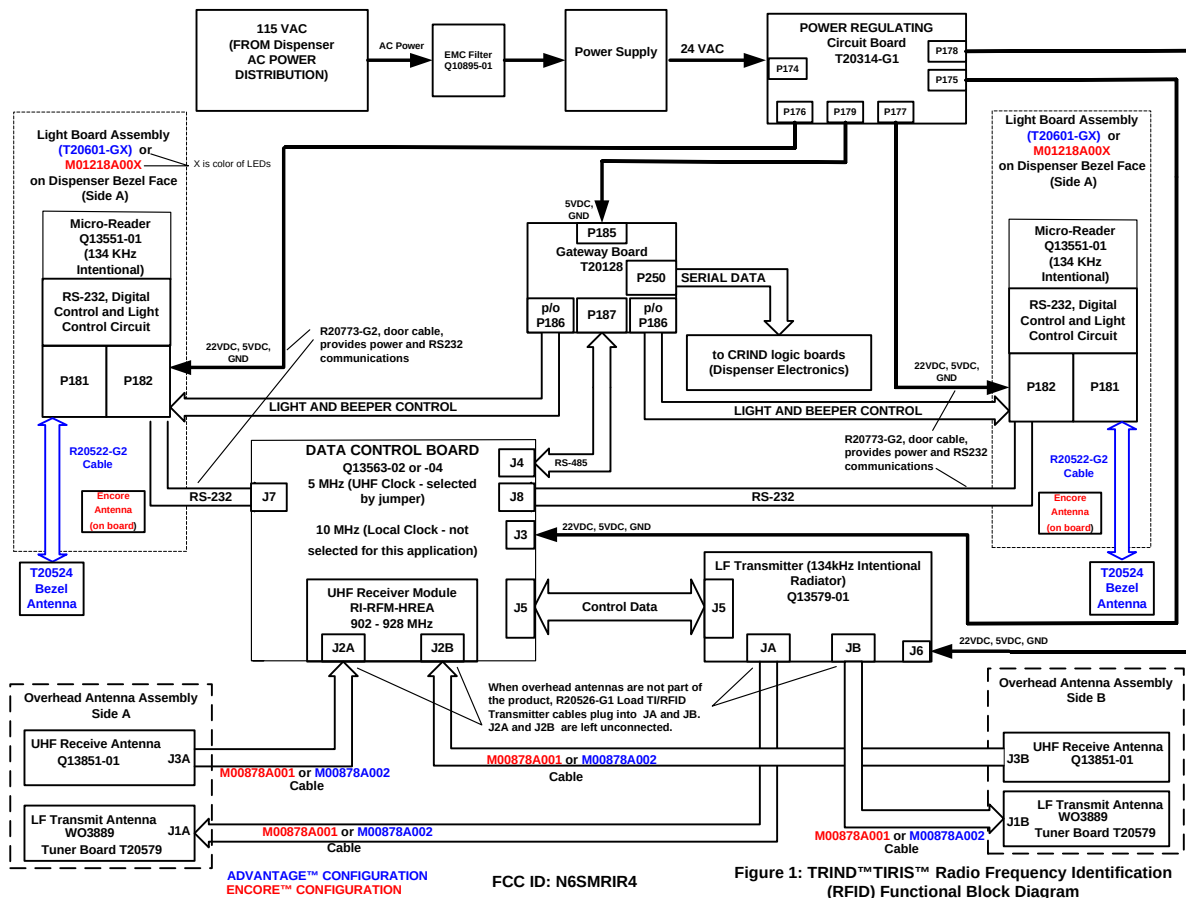

Figure 1: TRIND™TIRIS™ Radio Frequency Identification (RFID) Functional Block Diagram
Essentially, Marconi Commerce Systems Inc. is providing the packaging, power, indicators, and antennas for the three boards supplied by Texas Instruments Inc. (Data Control Board, Low Frequency Transmitter Module and the Micro-Reader) – see Figure 1: TRIND™TIRIS™ RFID Functional Block Diagram.
The TRIND™ TIRIS™ System is mounted into an enclosure such as, but not limited to, a fueling dispenser. The system includes two overhead 134.2kHz low 'Q' transmit antennas with tuning boards, a low frequency (LF) transmitter module, a data control board (DCB) with a 902.858Mhz UHF receiver module, two 902.858Mhz UHF receive antennas, two 134.2kHz low 'Q' printed circuit board antennas, two Light/Micro-Reader Boards (T20601-GX and M01218A00X where X indicates the LED colors), and a switched DC Power Supply. These components are listed in Table 1.1, and the functional relationship is provided in Figure 1: TRIND™TIRIS™ RFID Functional Block Diagram. The 134.2 kHz transmit signal originates on the LF Transmitter board and from the Micro-Reader located on the Light/Micro-Reader Board and travels via their respective cables to their respective antennas where it is intentionally radiated.